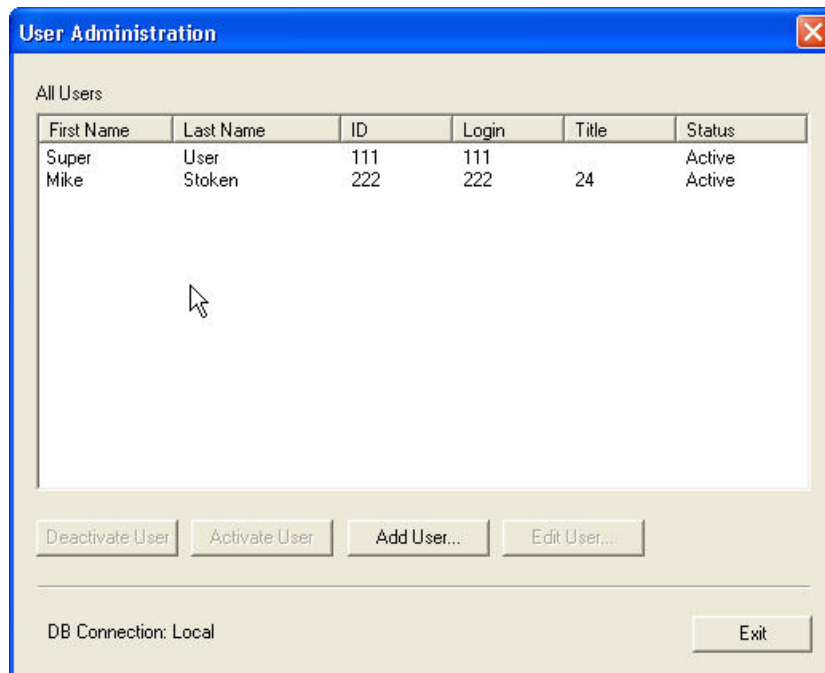

Figure 19 - User Administration dialog box
- A dialog box will open – Figure 18 for **Start>Programs>zzzPAT>Database Wizard** or Figure 19 for **Tools>User Administration**.